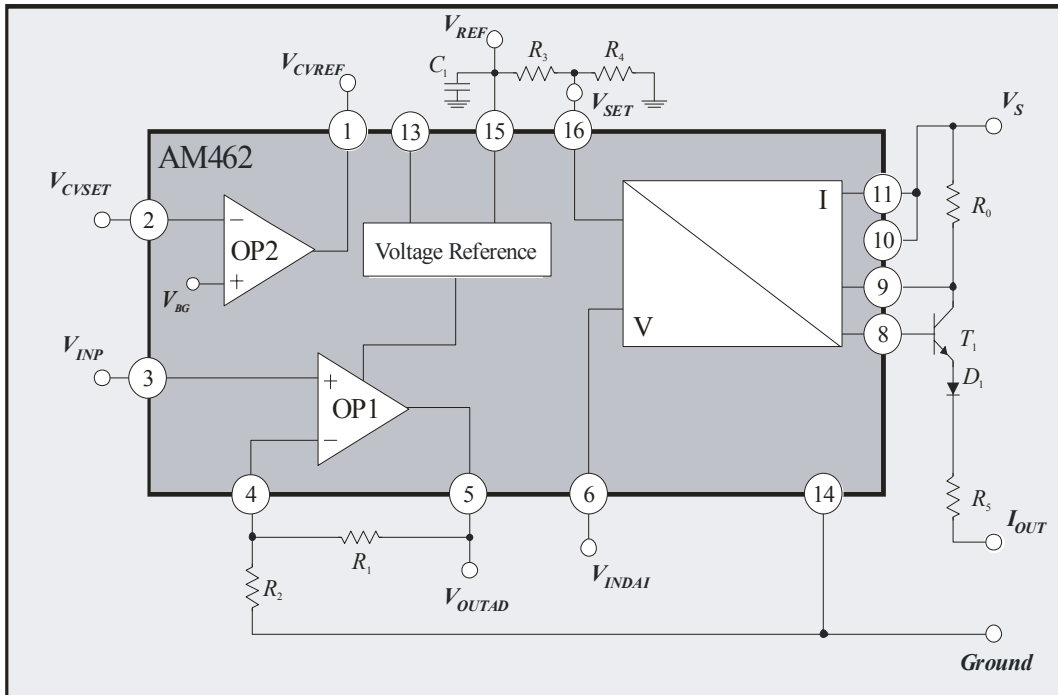
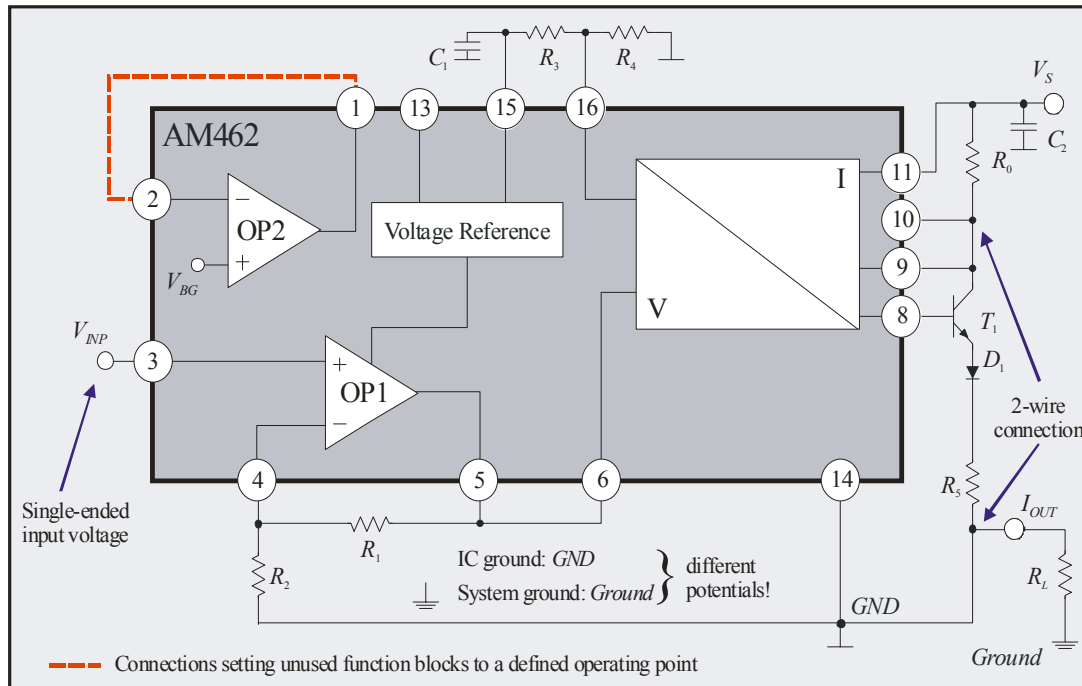

Figure 2: Block diagram of AM462 with external components (3-wire circuit for current output)
Figure 8: Typical 2-wire operation for input signals referenced to ground
AM462 is a modular, universal V/I converter and protector IC which has been specially developed for the conditioning of voltage signals referenced to ground. It is designed for both 2- and 3-wire operation in industrial applications (cf. application in Figure 8). AM462's various functions are depicted in the block diagram (Figure 2) which also illustrates how few external components are required for the operation of this particular device.
AM462 consists of several modular function blocks (operational amplifiers, voltage-to-current converters and references) which, depending on external configurations, can either be switched to one another or operated separately (see the basic circuitry in Figure 2):
2. The internal voltage-to-current converter (V/I converter) provides a voltage-controlled current signal at IC output *IOUT* (pin 8) which activates an external transistor T_1 ; this in turn supplies the actual output current I_{OUT} . To reduce power dissipation the transistor is an external component and protected against reverse polarity by an additional diode D_1 . Via pin *SET* an offset current I_{SET} can be set at output *IOUT* (with the help of the internal voltage reference and an external voltage divider as shown in Figure 2, for example). External resistor R_0 permits the output current to be finely adjusted with parallel operation of current and the voltage output. For the output current provided by T_1 the following ratio applies:
- The AM462 reference voltage source enables voltage to be supplied to external components (such as sensors, microprocessors, etc.). The reference voltage value V_{REF} can be set via pin 13 V_{SET} . If pin V_{SET} is not connected, $V_{REF} = 5V$; if V_{SET} is switched to ground, $V_{REF} = 10V$. Values between the above can be set if two external resistors are used (inserted between pin V_{REF} and pin V_{SET} and between pin V_{SET} and GND ; see Figure 2).
When using amplification stage OP1 together with the V/I converter for voltage-to-current conversion the offset of the output current should first be compensated for by suitable selection of resistors R_3 and R_4 . To this end the OP1 input must be connected to ground ($V_{INP} = 0$). With the short circuit at the input and by connecting up V/I converter pin *VSET* as shown in Figure 2 the values of the output current according to Equation 2 are as follows:
1. When operating AM462 it is imperative that external capacitor C_1 is **always** connected (cf. **Figure 2**). Care must be taken that the value of the capacitance does not lie beyond its given range, even across the range of temperature (see *Boundary Conditions* on page 7). In 2-wire operation ceramic capacitor C_2 must also be used (cf. Figure 8).
In 2-wire operation (cf. Figure 8) system supply voltage V_S is connected up to pin $RS+$ and pin VCC to pin $RS-$. The ground of the IC (pin GND) is connected to the node between resistor R_5 and load resistor R_L . IC ground (GND) is **not** the same as system ground ($Ground$). The output signal is picked up via load resistor R_L which connects current output I_{OUT} to the system ground.